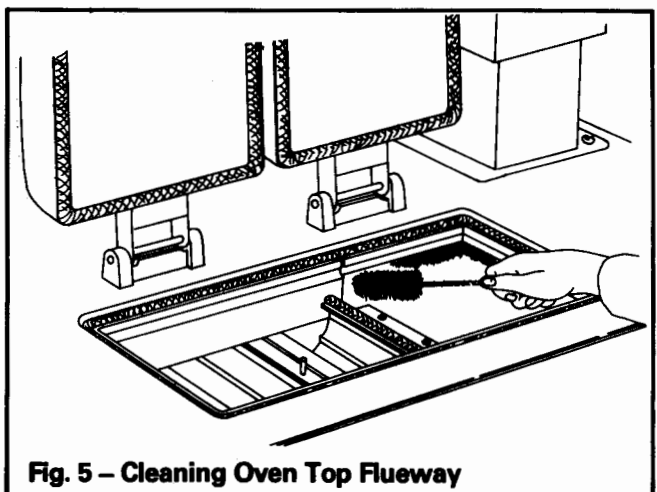

Fig. 5 – Cleaning Oven Top Flueway
To Clean the Boiler/Heat Exchanger – Fig. 5, 6 and 7
- c. Ensure that the flueway above the oven top is clear and any deposit is removed. See Fig. 5.